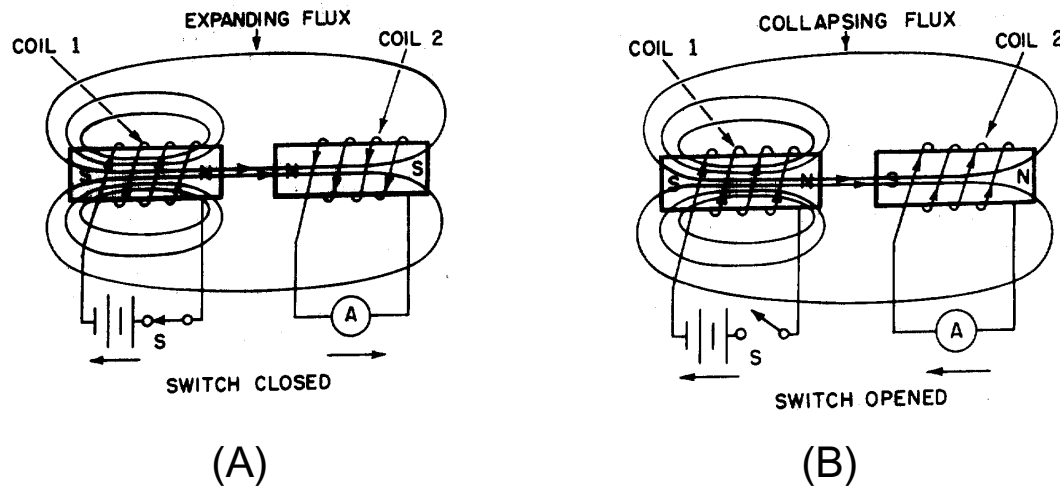

Figure 2-13.—Mutual inductance.
Two coils are placed close together as shown in figure 2-13. Coil 1 is connected to a battery through switch S, and coil 2 is connected to an ammeter (A). When switch S is closed as in figure 2-13(A), the current that flows in coil 1 sets up a magnetic field that links with coil 2, causing an induced voltage in coil 2 and a momentary deflection of the ammeter. When the current in coil 1 reaches a steady value, the ammeter returns to zero. If switch S is now opened as in figure 2-13(B), the ammeter (A) deflects momentarily in the opposite direction, indicating a momentary flow of current in the opposite direction in coil 2. This current in coil 2 is produced by the collapsing magnetic field of coil 1.